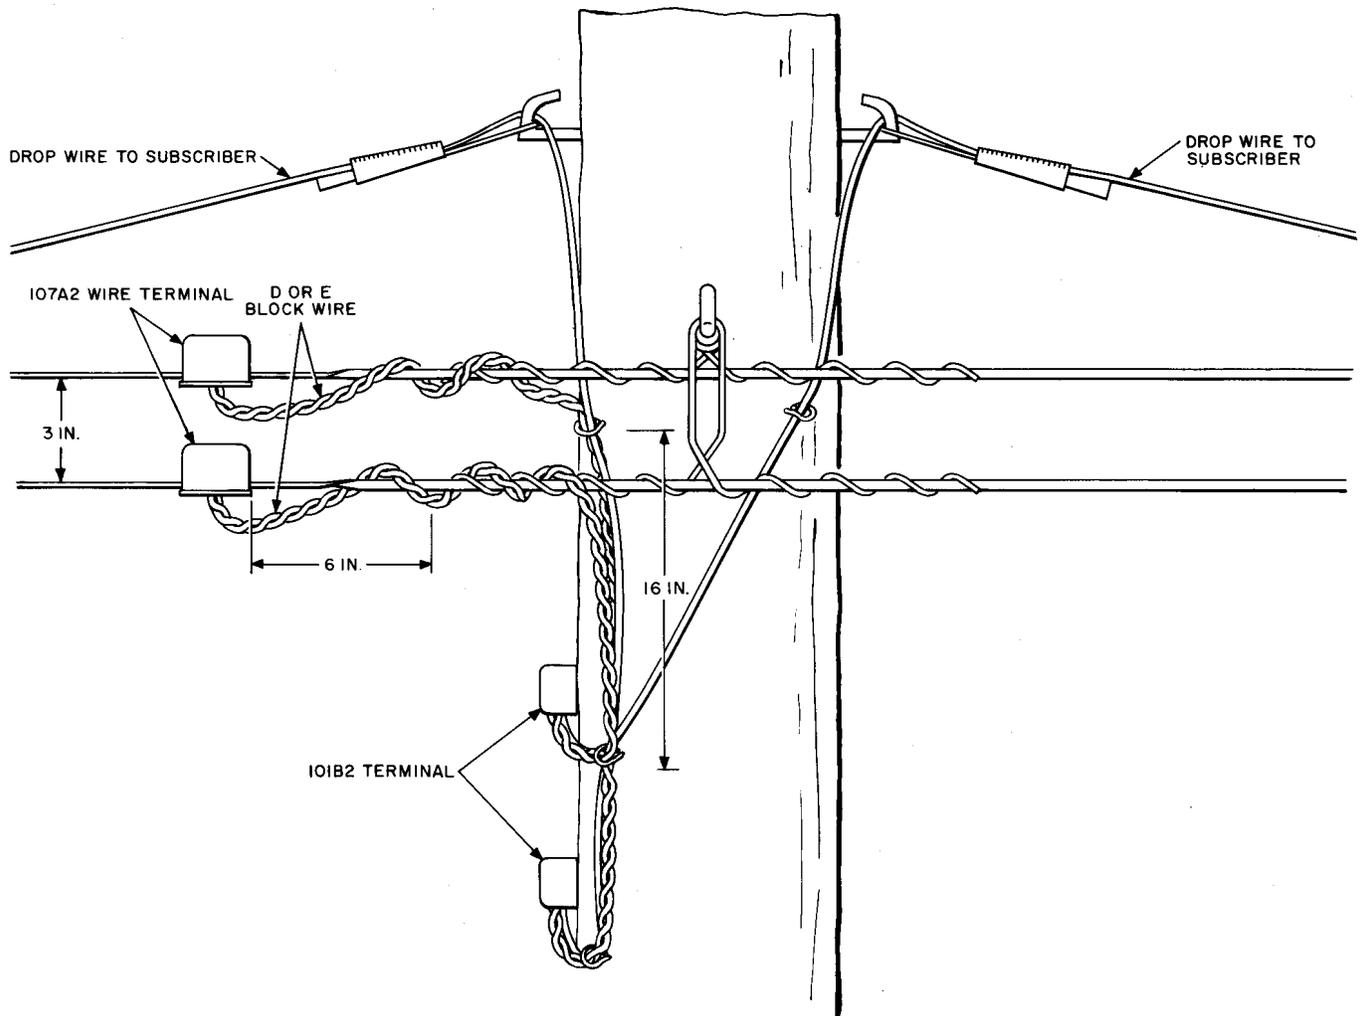

Fig. 8—C Rural Wires With Terminations at Intermediate Pole
3.03 To serve one or more stations from an intermediate pole, 107A2 wire terminals may be placed as shown in Fig. 8. At least 2 feet of D or E block wire, with 16 inches vertical shall be used between the 107A2 wire terminal and the 101B2 wire terminal to serve as a fusible link between the C rural wire and the subscriber drop wire.